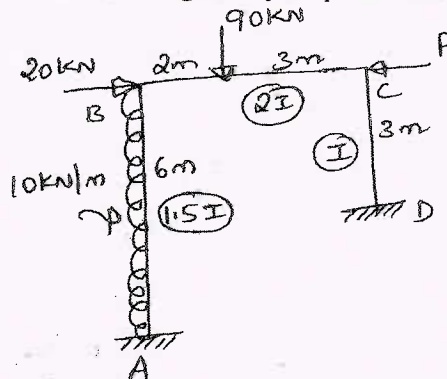

Fig.Q2
- 2 Analyze the rigid plane frame shown in Fig.Q2 by slope deflection method and draw BMD.